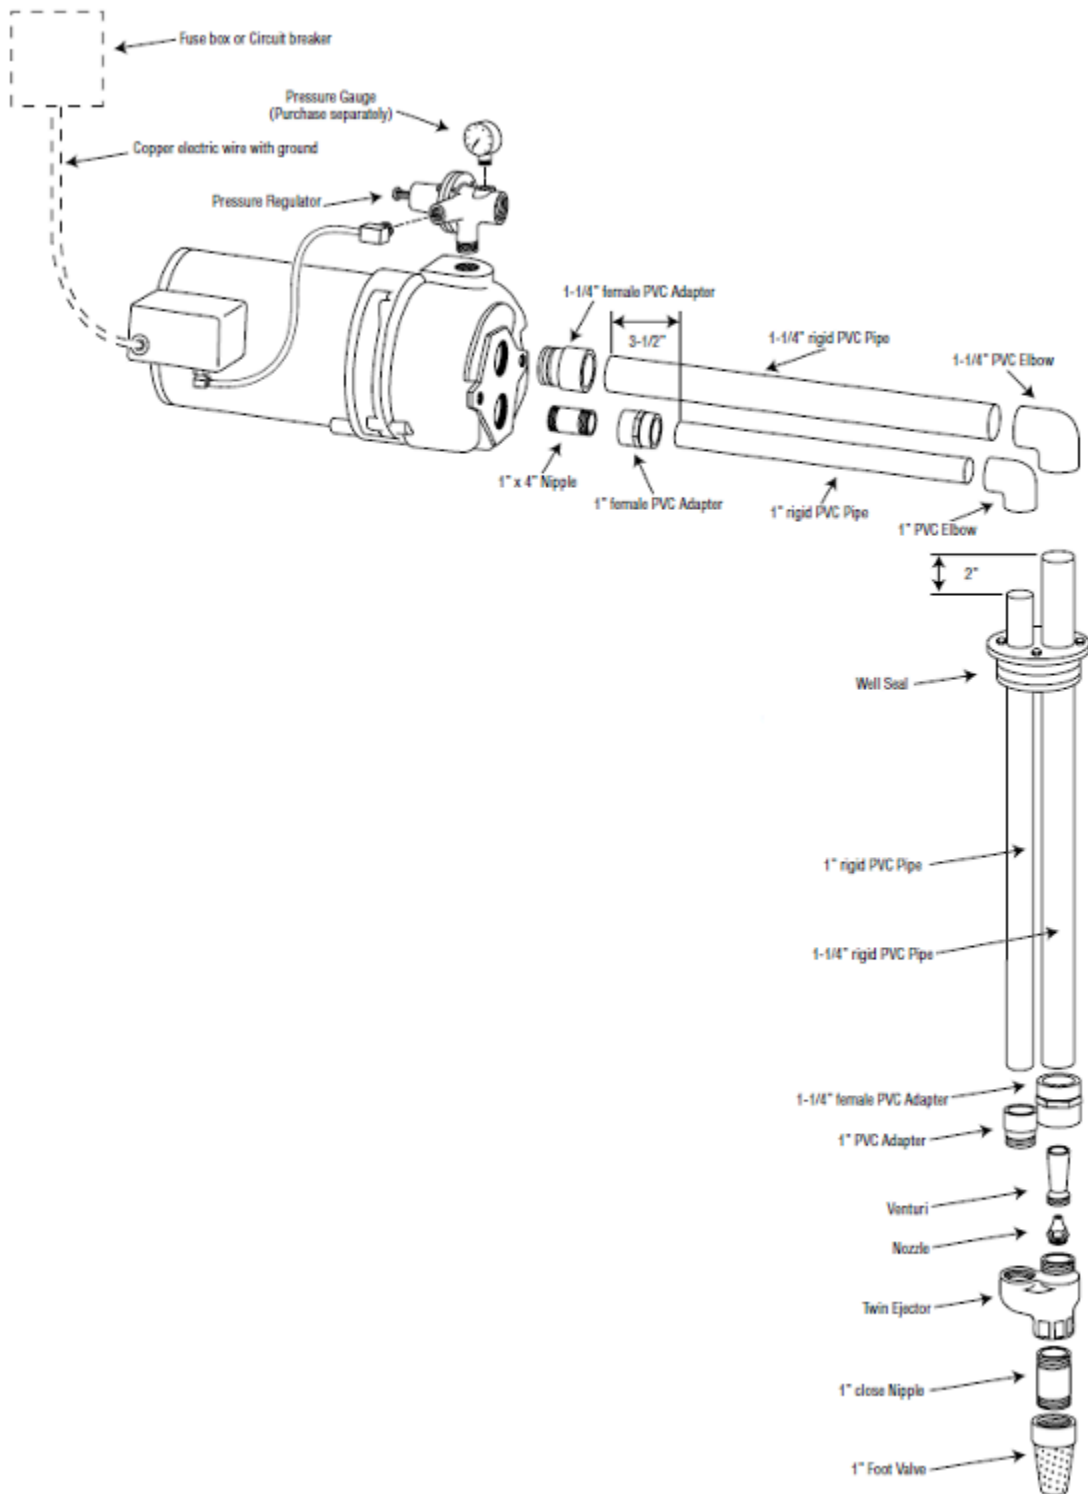

Figure 63. Deep well pump installation
Before beginning the installation be sure to complete the installation preparation checks. Refer to Figure 63 for these typical shallow well installation instructions.
- Figure 63. “Deep well pump installation” from Pentair Myers is used and adapted for educational purposes under the basis of fair dealing.